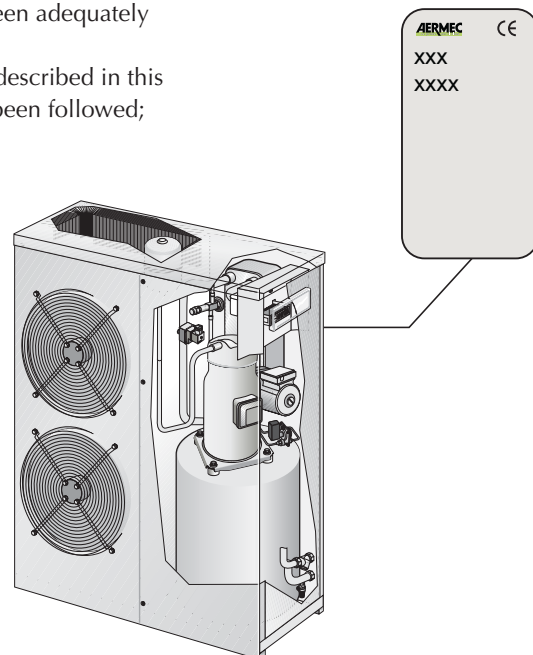

fig.01
- Check the electrical characteristics shown on the registration plate (fig.01) before making the electrical connections. Read the instructions in the specific section about electrical connections.